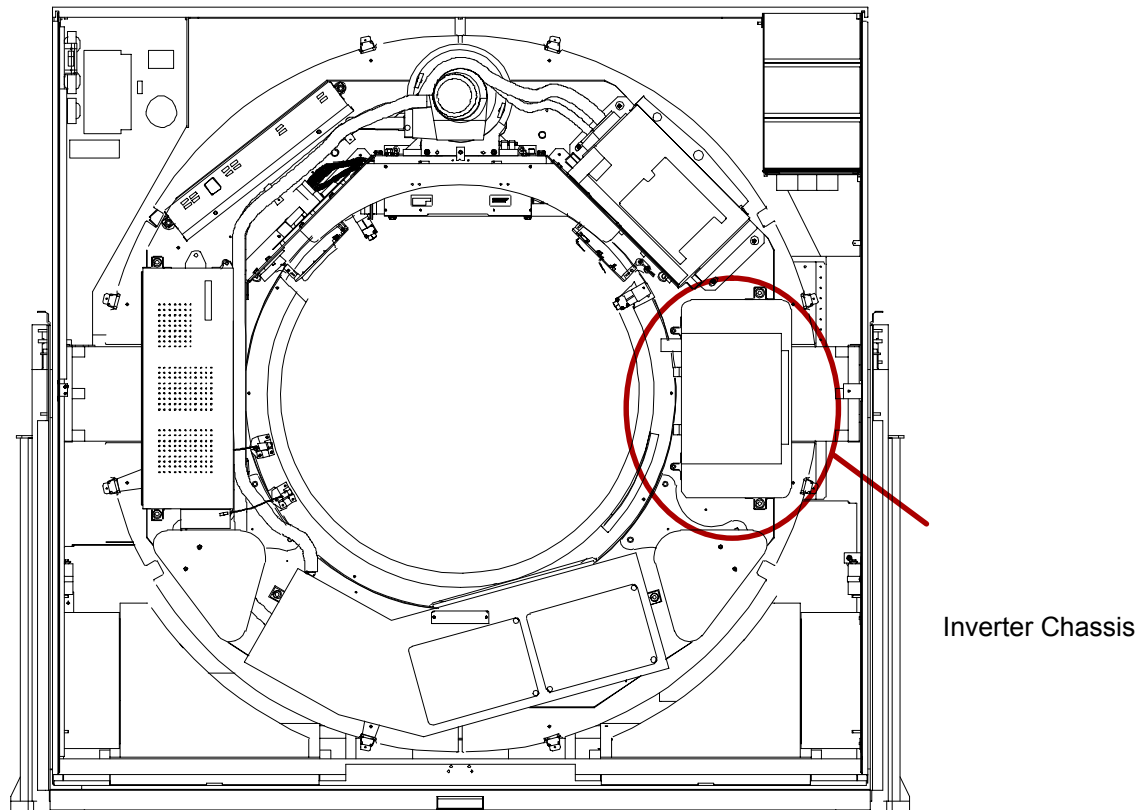

FIGURE 275 SCAN FRAME PINNED WITH TUBE AT 12:00
3. Rotate the scan frame counterclockwise by hand until the x-ray tube is at the 12:00 position. Lock the scan frame with the locking pin. See Figure 275.